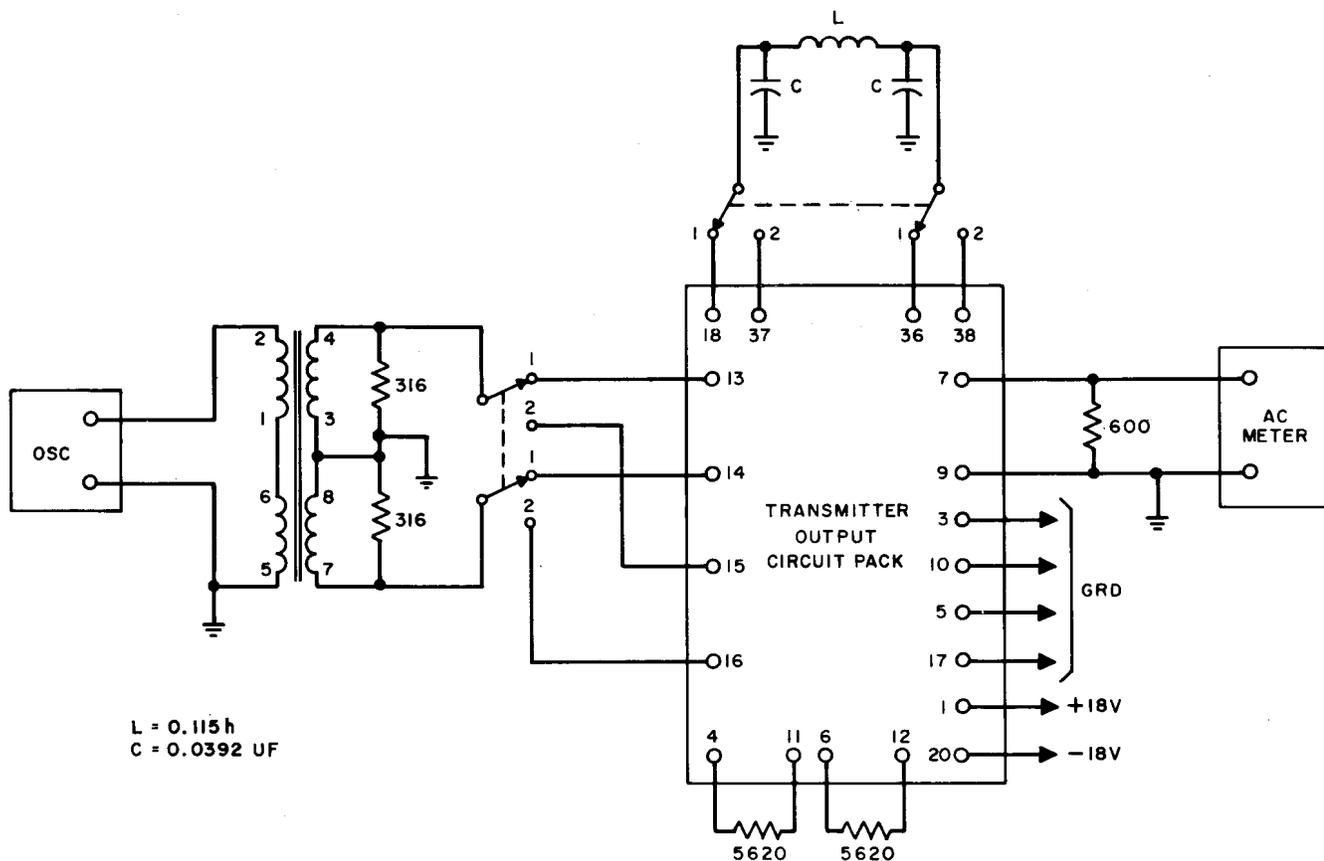

Fig. 31A — Transmitter Output Test Circuit
- (1) Connect the circuit pack to the suggested test circuit shown in Fig. 31A. Frequency of oscillator shall be 1800 Hz (±5 percent).
- (2) With both switches set to position 1, adjust the oscillator to produce a 1.0 (±0.05) Vac rms signal between input terminal 13 and ground and between input terminal 14 and ground. The output voltage between terminals 7 and 9 shall be 1.7 (±0.25) Vac rms.
- (3) With both switches set to position 2, adjust the oscillator to produce a 1.0 (±0.05) Vac rms signal between input terminal 15 and ground and between input terminal 16 and ground. The output voltage between terminals 7 and 9 shall be 1.7 (±0.25) Vac rms.